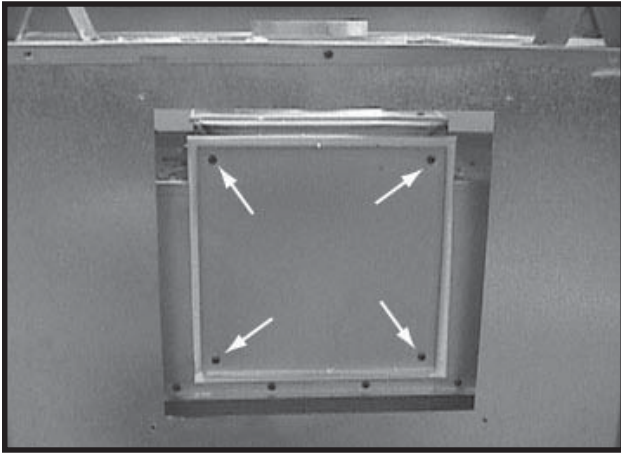

Figure 11 - Remove Outer Cover Plate
- g. Remove the four screws holding the outer cover plate to the appliance back. See Figure 11. Remove the outer cover.